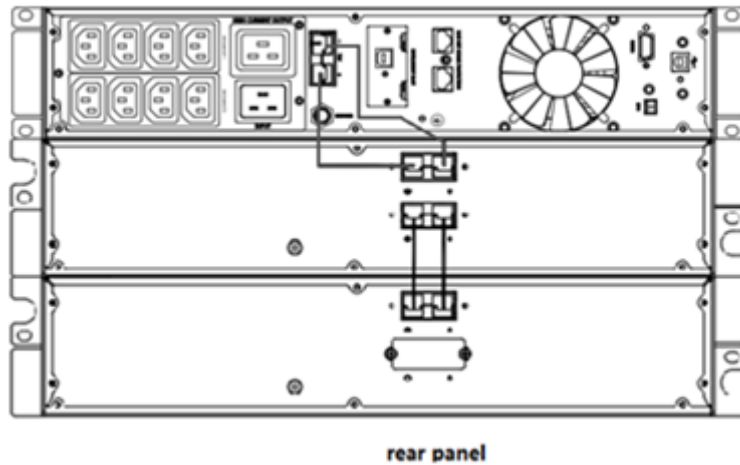

Figure10 - Typical EBP Installation
c) For the bottom (or only) EBP, remove the EBP cable knockout on the top of the EBP front cover. See Figure 10 for the location of the top EBP cable knockout.
d) If you are installing more than one EBP, for each additional EBP remove the EBP cable knockout on the top and bottom of the EBP front cover. See Figure 10 for the location of the EBP cable knockouts.
e) Plug the EBP cable(s) into the battery connector(s) as shown in Figure 10. Up to four EBPS may be connected to the UPS. Connect black to black, Press the connector tightly together to ensure a proper connection.